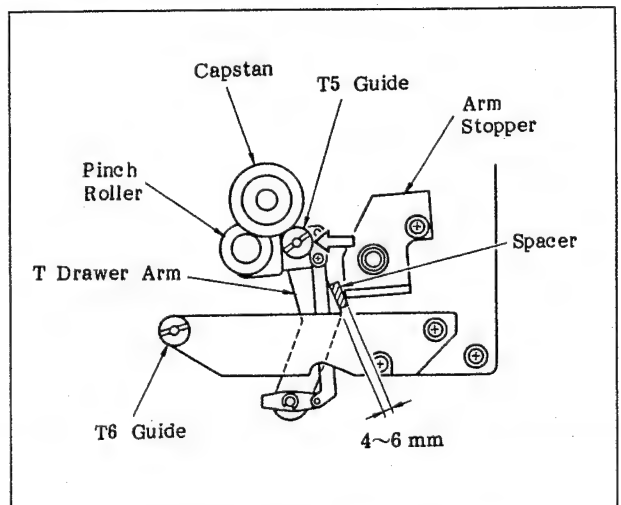

Fig. 6-83 Preparation before Making the Adjustments (2)
c. Push the T5 guide in the direction of the arrow with your finger, as shown in Figure 6-83, and then insert a 4 to 6mm thickness spacer between the T drawer arm and the arm stopper.